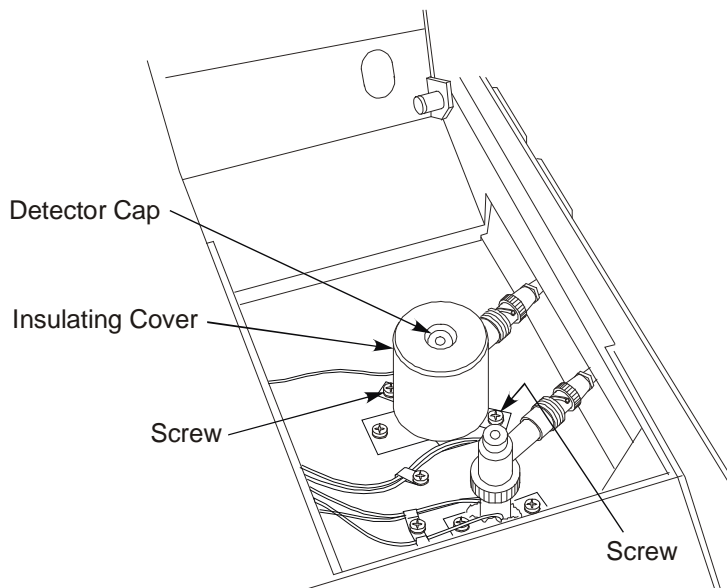

Figure 55. ECD insulating cover.
4. Using the instructions included with the wipe-test kit (P/N 00091667) supplied with the detector, wipe the external surfaces of the items shown in Figure 55 with the “low Activity Source” filter papers: